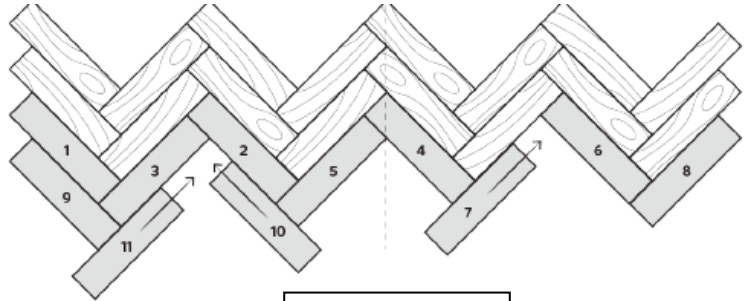

Figure 2
6. Start laying the successive rows from the left of the room. Follow the order indicated on the image below for the easiest installation method. (Figure 2)
7. To connect the panels: angle the long side of the panel in the long side of the adjacent panel in the row above. Use a snap movement to connect the short side of the panel in the long side of the second panel in the row above. You can use a rubber mallet and tapping block for snapping in. Make sure the panel is angled down completely before snapping in the short side. (Figure 2)